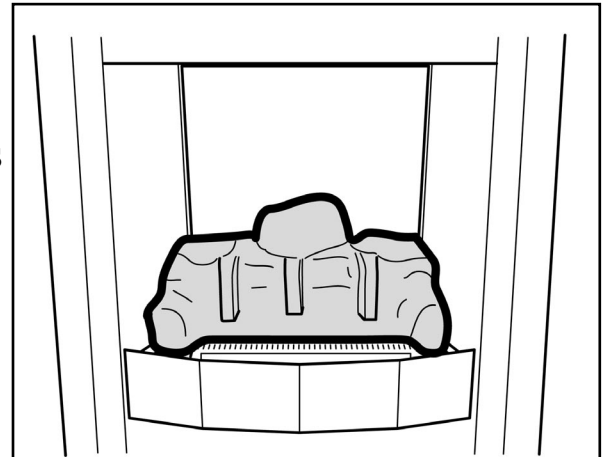

Figure 4 Rear Base Pebble Position
1. Place the rear base pebble in the firebox. It should rest on the ledges at the rear sides of the burner unit. When located gently move the rear base pebble so that it is as far forward as possible. The amount of movement will be negligible (See figure 4).